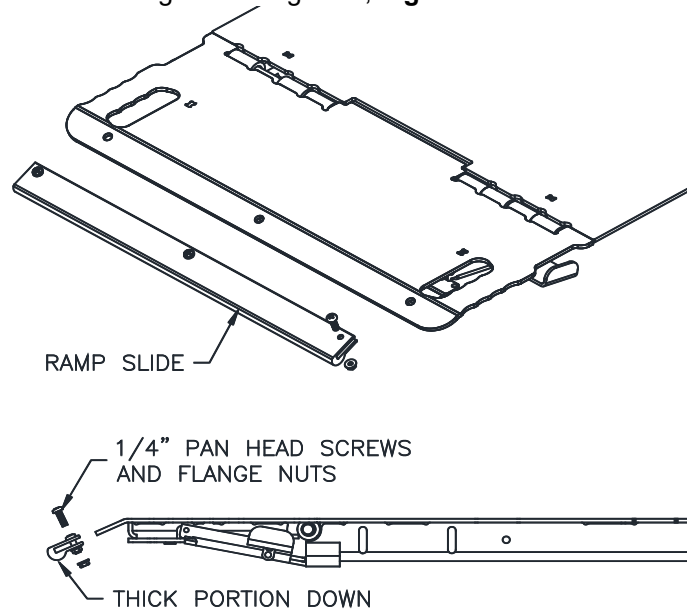

Fig. 4 INSTALLING THE RAMP SIDES
4. Install a Ramp Slide to the bottom of each of the four Ramps. Orient the thick lobe portion of the Ramp Slide down, and secure it with three (3) 1/4" Phillips Pan Head Screws and Flanged Locking Nuts, **Fig. 4**.